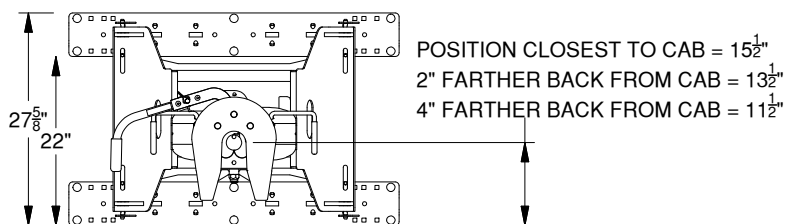

Figure A2: Distance from edge of rear rail to pivot point. (Rails, base and coupler shown fully assembled.)
1. **Mount arms.** Mount the pivot arms using one of the twelve different locations illustrated in Table A1 and Figure A2. These twelve locations allow flexibility in coupler height (vertical adjustment) and distance from the cab (horizontal adjustment). Choose a location so that your trailer will be as level as possible and have adequate turning clearance while towing.